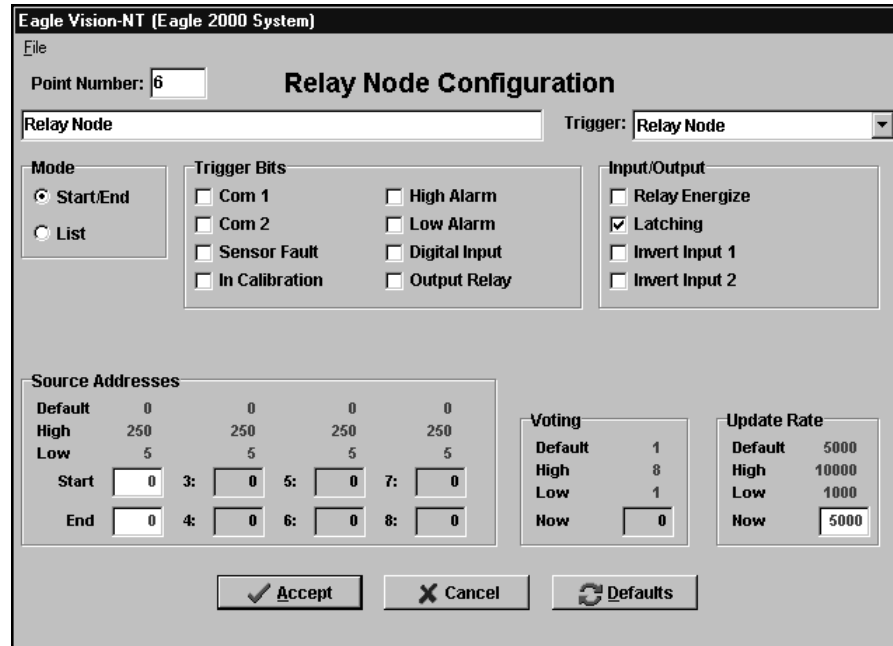

FIGURE VI-3
3. Click on the Relay Node button, then click on OK. The Relay Node Configuration screen will be displayed. See Figure VI-3.